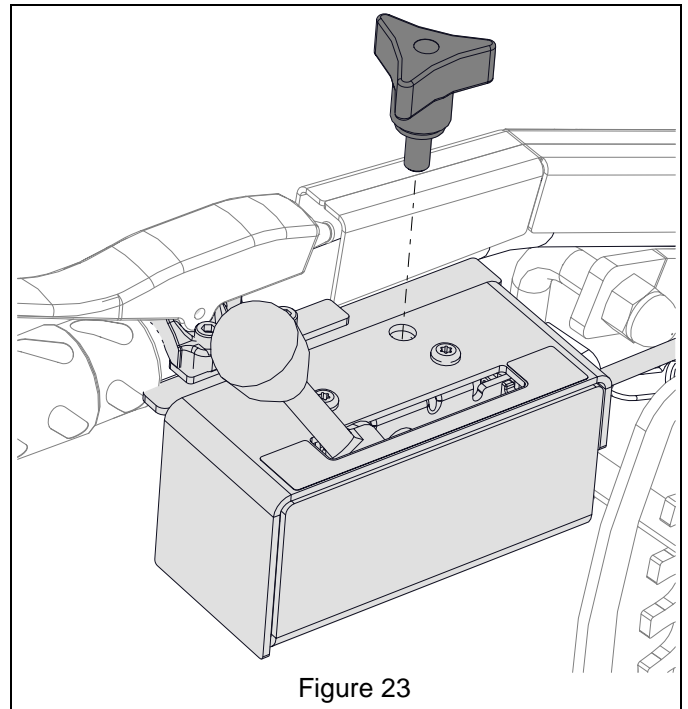

Figure 23
13. Install wing knob through control box and into bracket. See Figure 23.